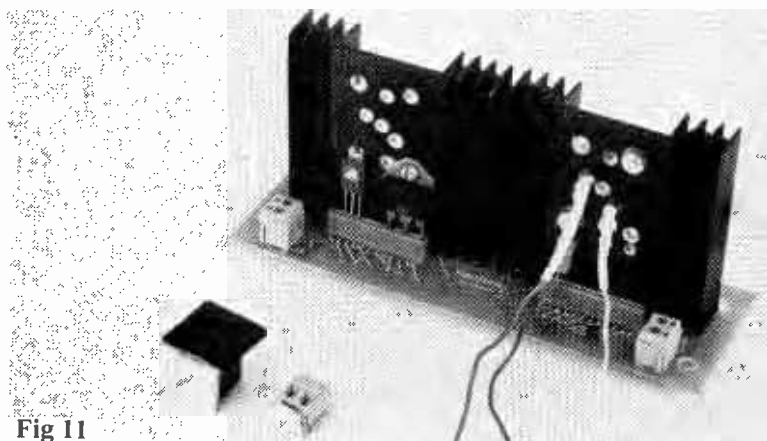

Fig 11
**Function boards** are modules designed to be used with the Ramp base board which also accommodates up to four Bimboards. A power board, see Fig. 11 which measures 150 × 50mm, allows breadboard circuits to use either TO3P, TO126, TO220, TO66 or TO3 type semiconductor cases on two 10W heat-sinks. The components are either plugged into a fixed socket and bolted to the